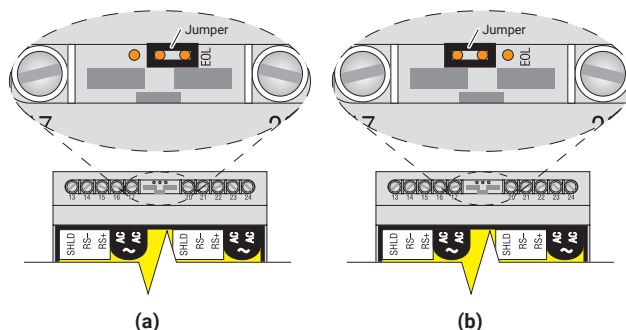

Figure 7. End of Line Jumper for last TTSIM (a) and all other TTSIMs (b)
- On the last TTA-SIM in the network communication circuit, place the jumper on the two pins closest to the EOL mark as shown in Figure 7(a).
- On all other TTA-SIMs or TTSIMs in the network, place the jumper as shown in Figure 7(b).
- Place the configuration jumper in the normal operating position, as shown in Figure 7(b), or remove it completely (the jumper is not required in normal operation).